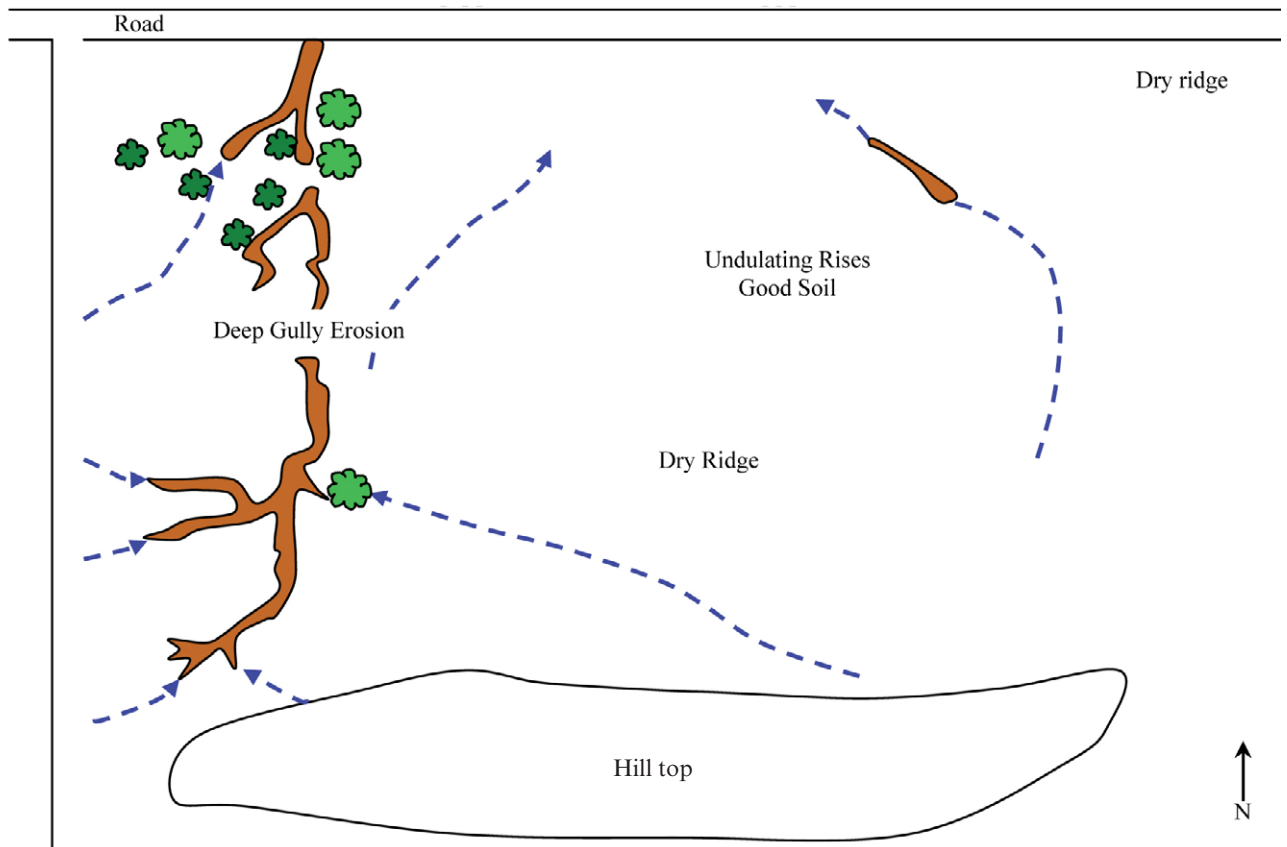

Figure 2 Designing the 'perfect farm'
Figure 2 property plan and coloured marking pens.
- Present a final plan on Figure 2.